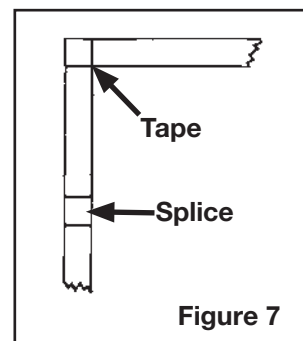
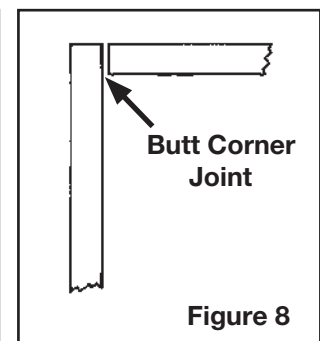

Figure 7
Figure 8
4. Where overlap joints are required, (e.g. corners and splices) the overlap should be a least 2" [50.8mm] long (i.e. full width of the tape - **Figure 7**). For butt joints, both ends of the tape must be firmly rubbed down to prevent tape lifting (**Figure 8**).